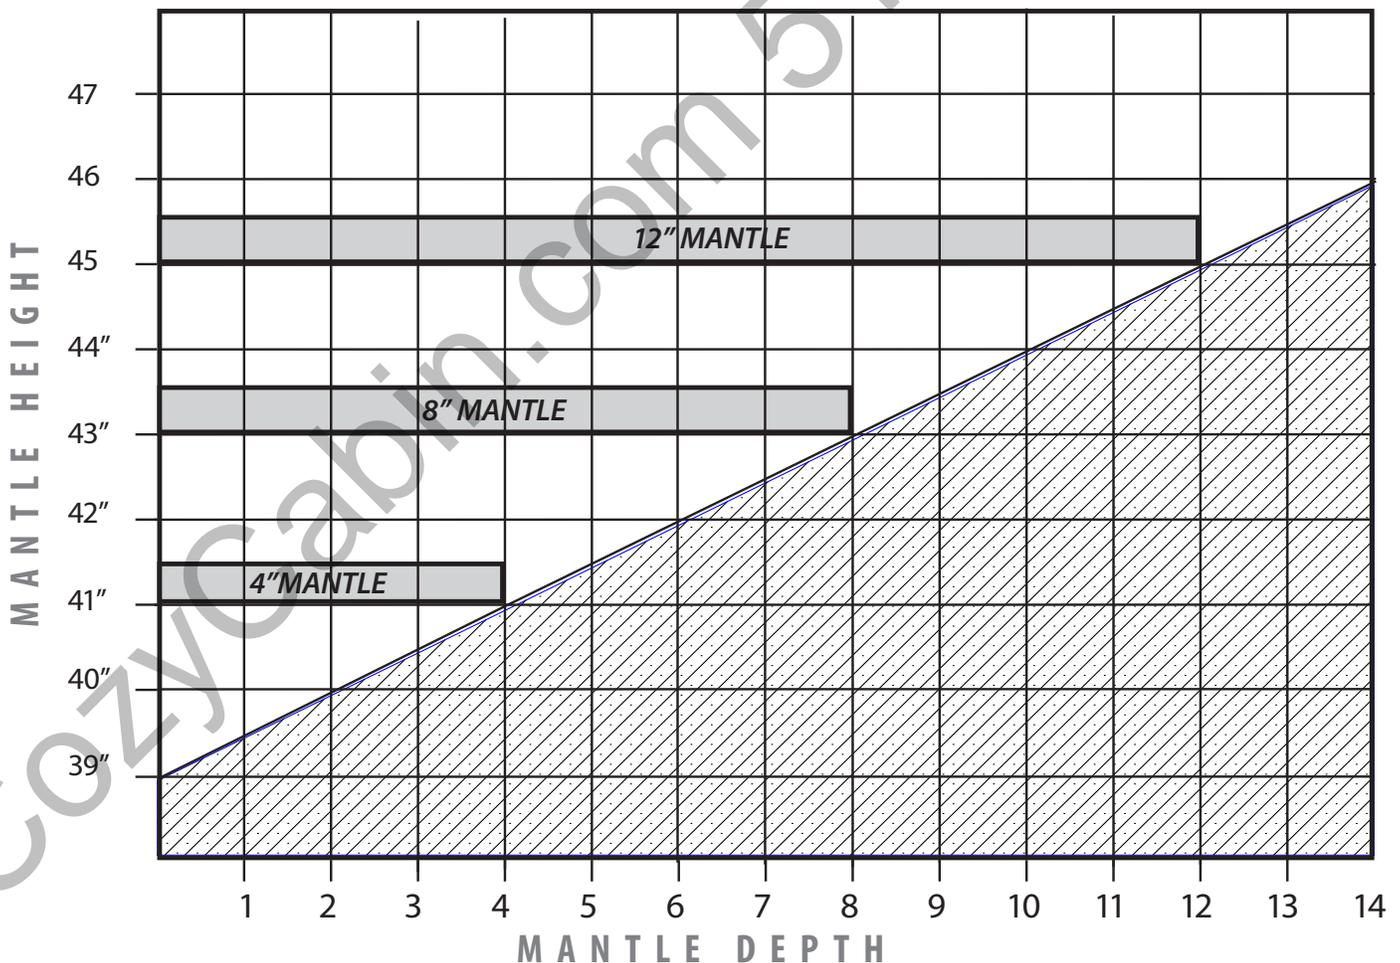
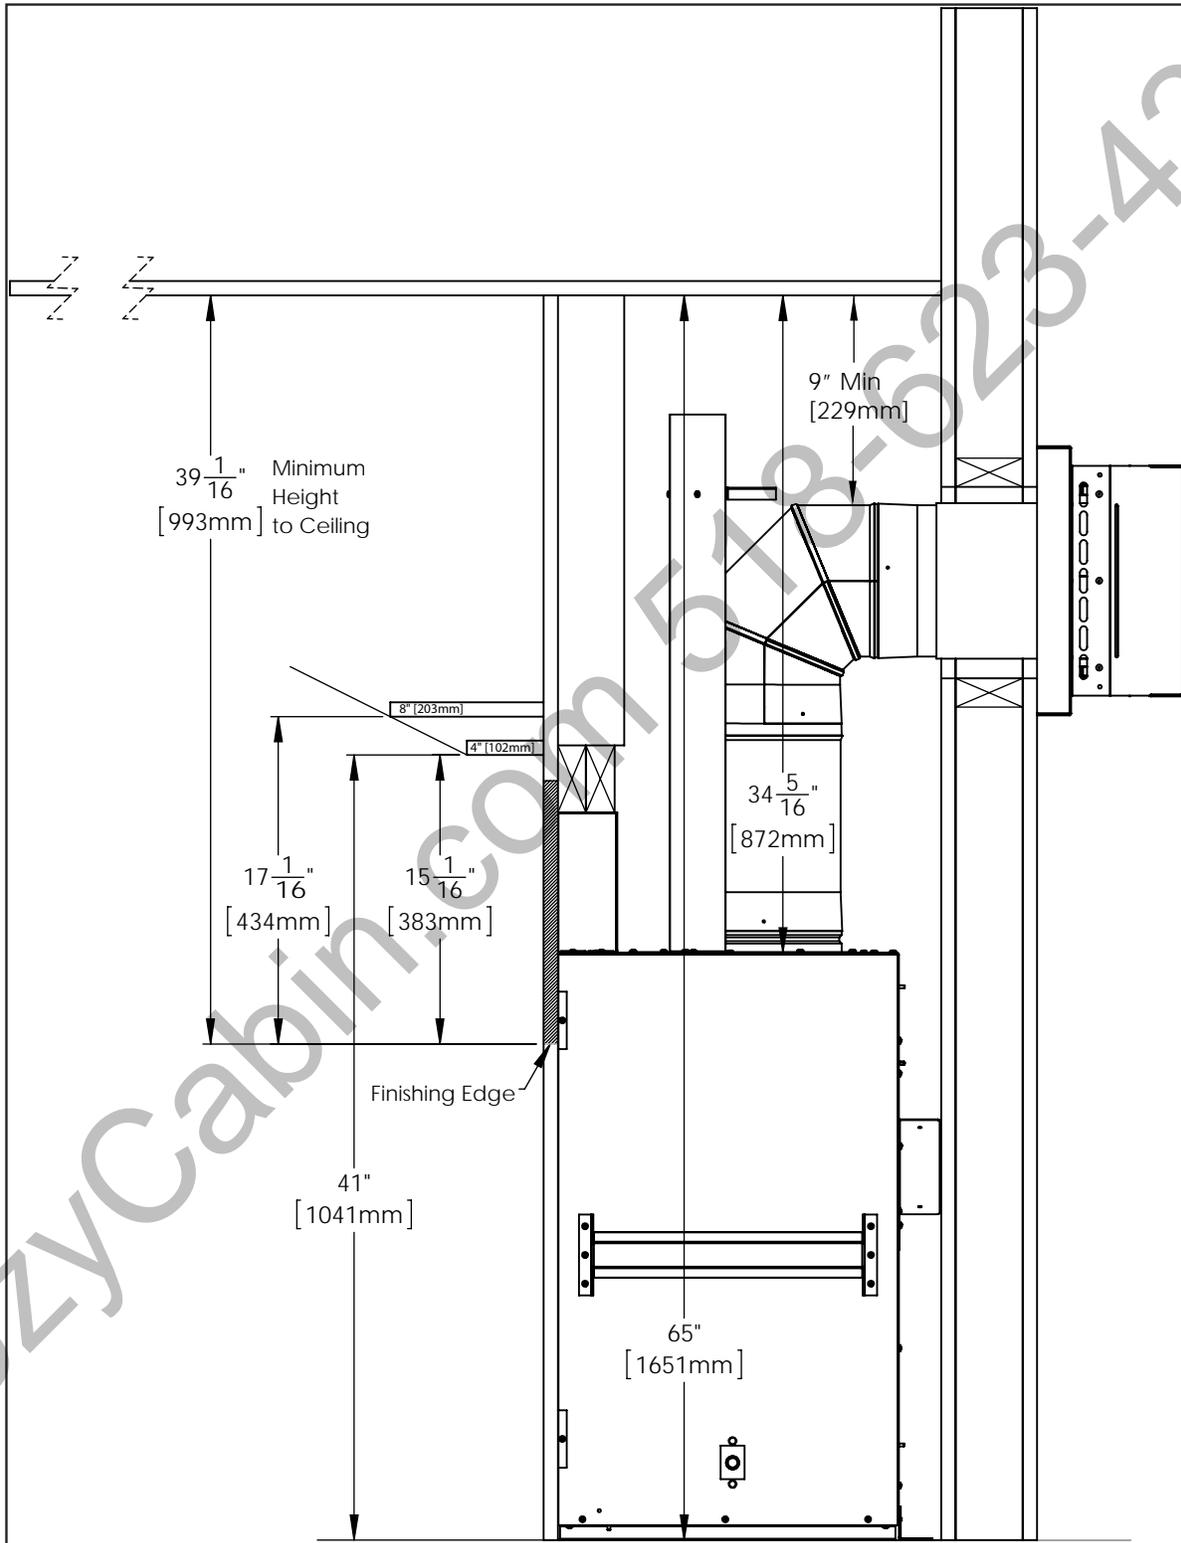
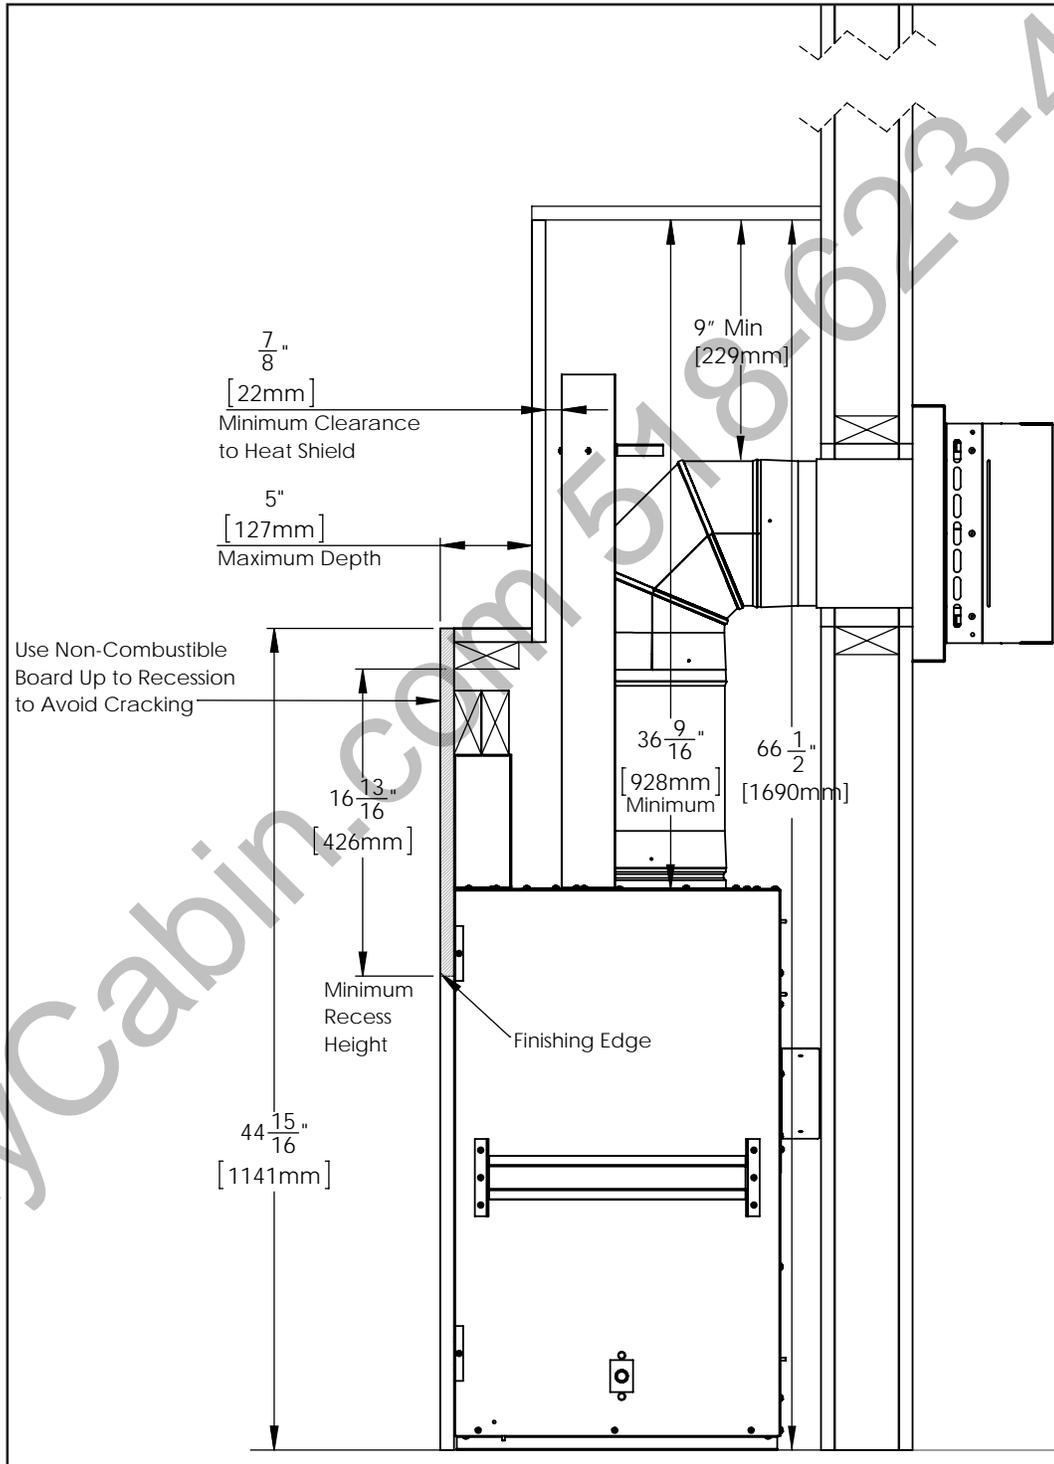
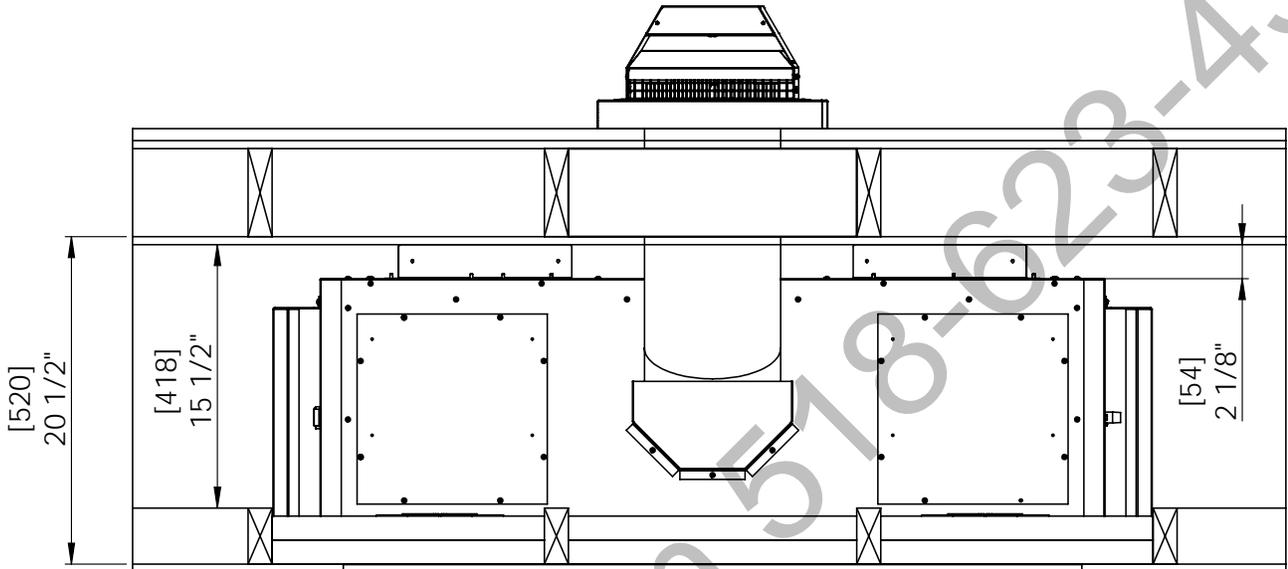

Figure 34: Minimum Mantel Height
Figure 35: Install Dimensions with Mantel
Figure 36: Install Dimensions with Recess
Figure 39: Dimensions for a Horizontal Installation
Refer to Figure 34 & Figure 35 for a combustible mantel installation, measurement is from bottom of the unit to the bottom of the mantel.
If adding a mantel to the C44I please note the critical dimensions shown in Figure 35. These are minimum dimensions as per certification and must be followed.
Refer to dimensions in Figure 36 if building a recess above the fireplace. Note the dimensions from the finishing edge to the stud below the recess finishing material. The vertical finishing material at the back of the recess must be spaced  $\frac{7}{8}$ " off the vent shield. Also note the dimension from the vent pipe to the internal ciling this must be maintained if the fireplace is raised.
Figure 39 shows a horizontal vent installation with minimum clearances. The horizontal vent shield must be used when the minimum vent configuration is used. If more than 12" of vertical rise is used the shield should not be installed. The vent to ceiling clearance must be maintained no matter the additional vertical vent height; see Figure 35 & Figure 36. A minimum of 1" clearance on all sides of the vent pipe must be maintained at all time unless specifically stated.
**MANTLE:** It is not necessary to install a mantle, but if one is desired the guidelines as shown in Figure 34 & Figure 35. The minimum clearance from the side of a mantle to wall is 4".